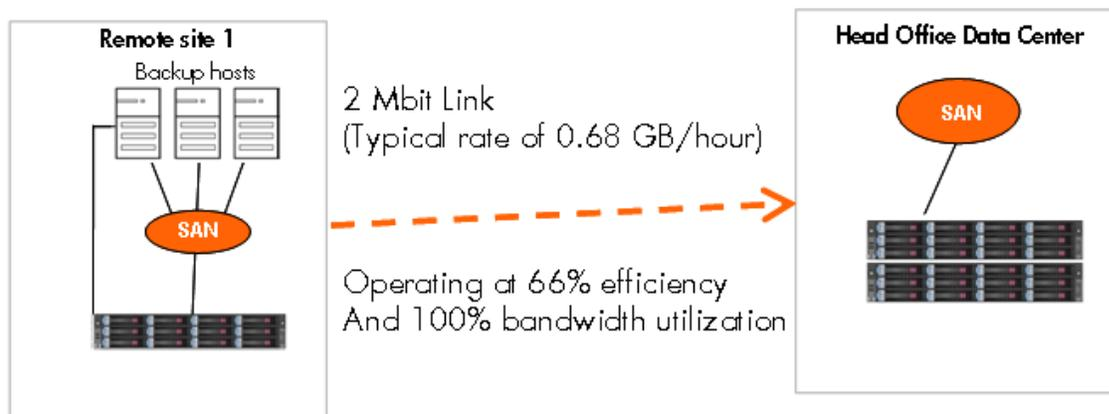

Figure 34 Example 3: 500 GB Virtual Cartridge Replication over a 2 Mbit/sec Link
- The same data calculations as the example in Figure 34.